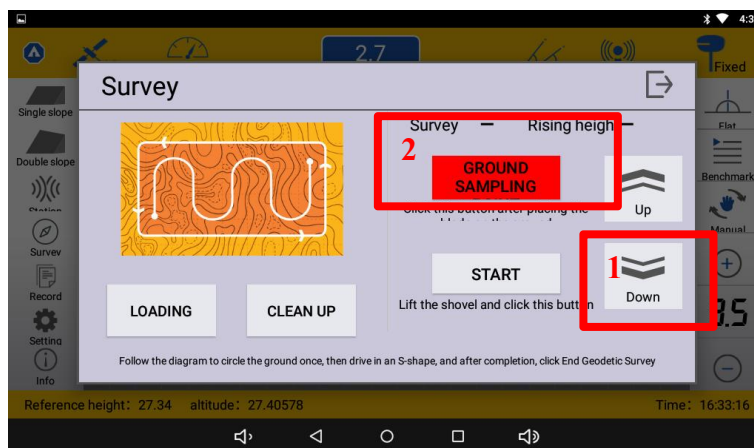

Figure 20
Step2. Click the Down button to lower the blade to the ground. Then click the GROUND SAMPLING button. (Figure 20)